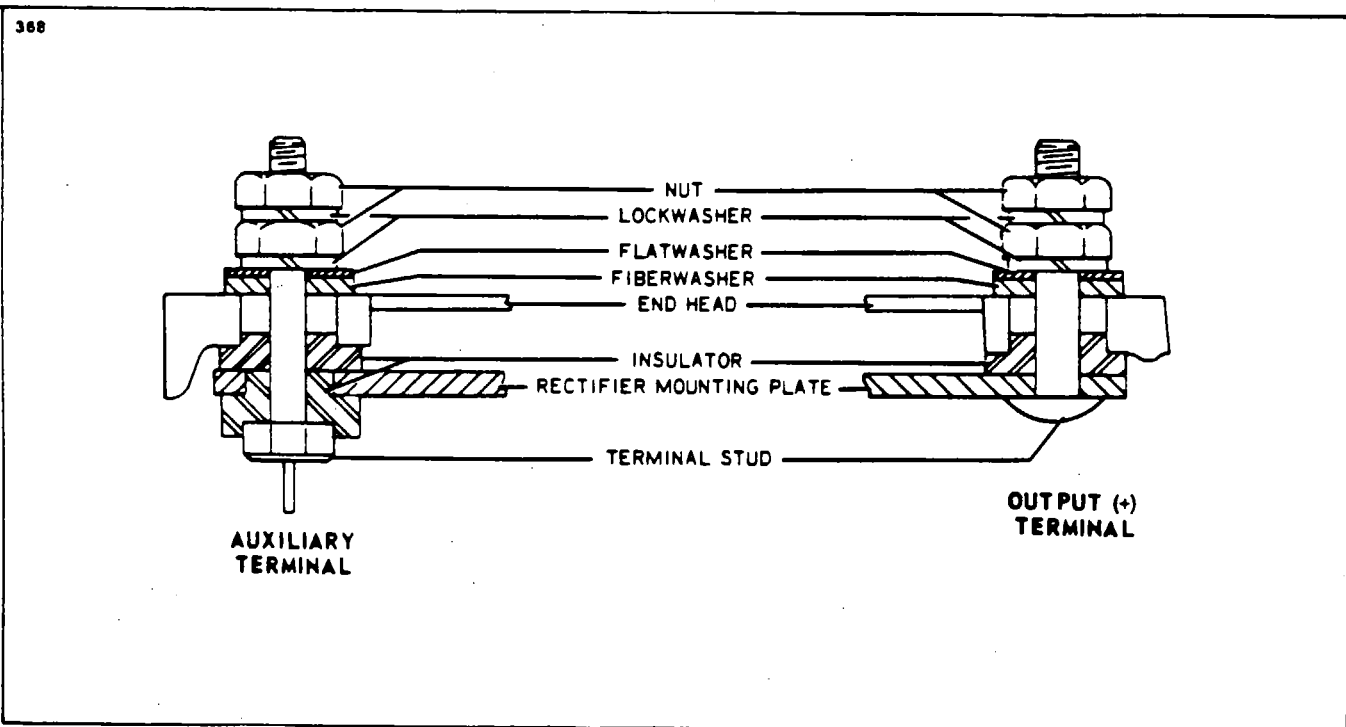

Figure 24-11. Terminal Assembly - Prestolite
3. Reassemble the rectifier mounting plate studs and insulators, making sure they are in the correct order. (Refer to Figure 24-11.)